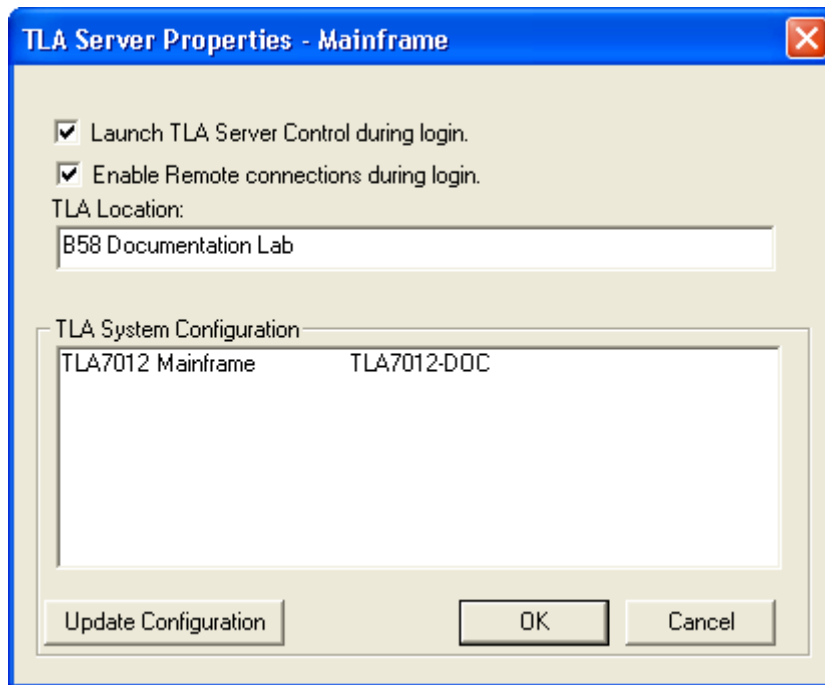

Figure 37: TLA Server Properties dialog box
2. Check **Launch TLA Server Control during login**. (See Figure 37.)